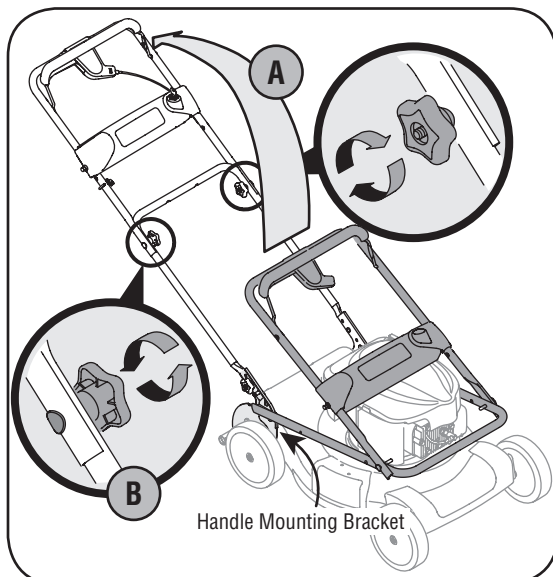

Figure 3-1: Unfold handle and tighten hardware.
- a. Remove hand knobs from handle mounting brackets and pull up and back on upper handle as shown in Figure 3-1. Make certain the lower handle is seated securely into the handle mounting brackets.